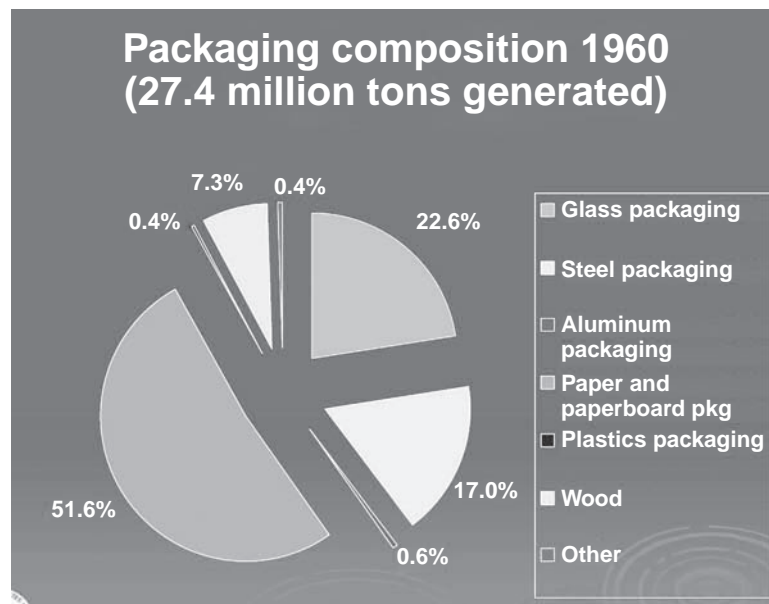

Figure 11.6
- Electronics Although electronics are an increasing part of our waste stream, only a small portion is responsibly recycled. Beginning in 2007, European Union (EU) citizens began taking their used computers, iPods, radios, and other electronic waste to collection points. This was in response to the EU Waste Electrical and Electronic Equipment (WEEE) Directive, which requires producers in member states to finance electronic waste take-back programs; they must also treat the waste. Electronic waste has been increasing three times faster than MSW as a whole. It is expected that WEEE will encourage producers to practice DfE: design changes in their electronic products that make for easier disassembly, recycling, or reuse.
- Packaging This is the largest component of US MSW, almost 32% by weight; about half is paper. Over the years, the use of glass and steel in packaging has decreased; aluminum is staying about the same. Meanwhile, plastics use, has increased dramatically. See Figure 11.6• If you examine products in US stores, you see many with unnecessary packaging. However, proper packaging performs valuable functions: on food, it reduces spoilage and the amount thrown away. In the United States, 15% to 20% of food is disposed of as